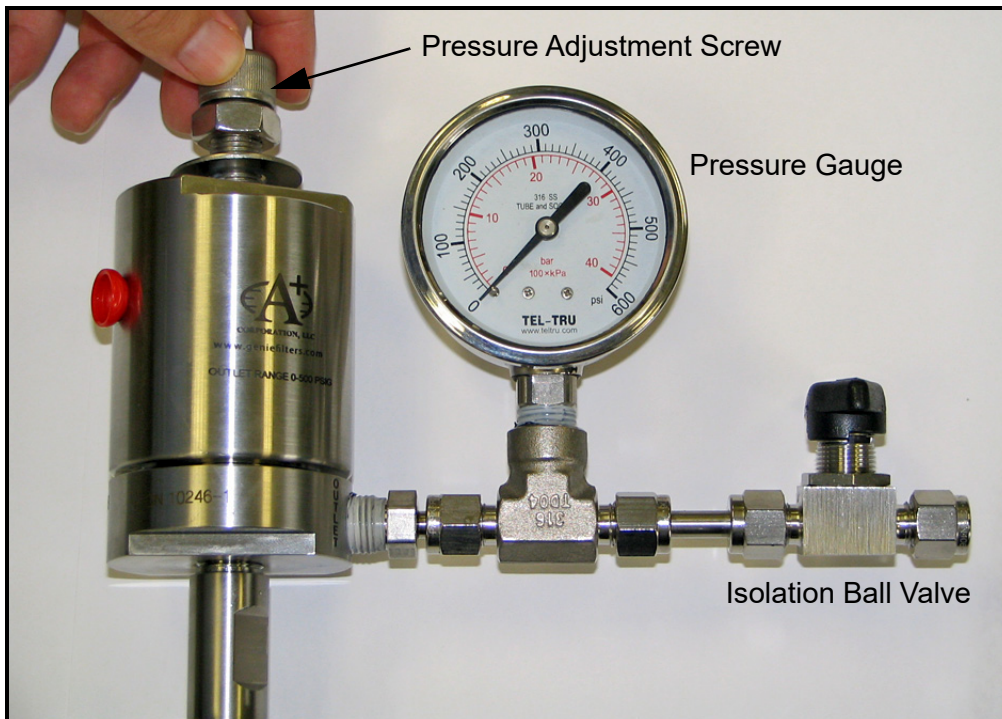

Figure 17: Rotating the Pressure Adjustment Screw
2. Rotate the pressure adjustment screw on the pressure regulator fully counterclockwise until it rotates freely. Close the isolation ball valve (see Figure 17 below).